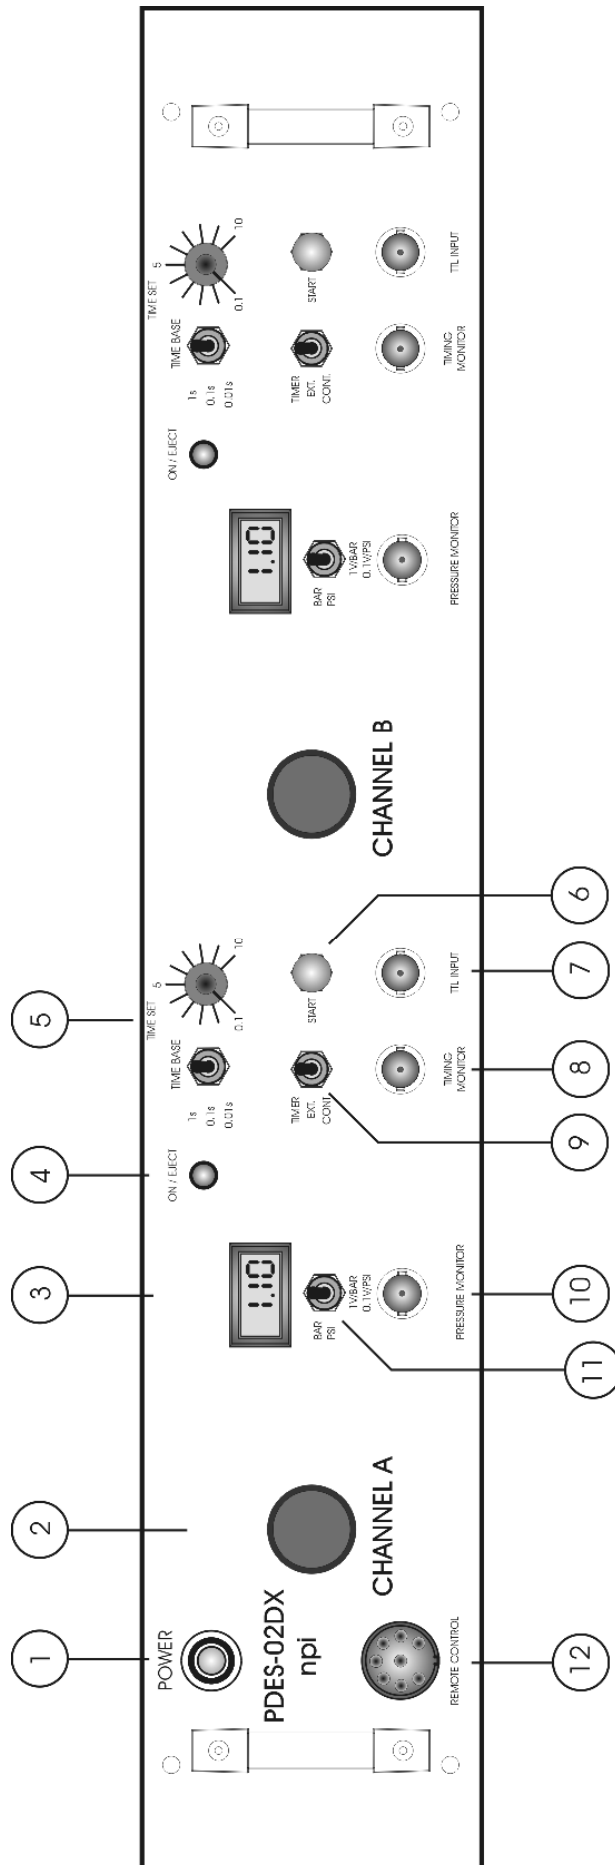

Figure 1: PDES-2DX front panel view (the numbers are related to those in the text below)
In the following description of the front panel elements, each element has a number that is related to that in Figure 1. The number is followed by the name (in uppercase letters) written on the front panel and the type of the element (in lowercase letters). Then, a short description of the element is given. PDES systems are available with one or two channels. Since both channels are identical only channel A is described.
- ❑ Select the operation mode using the respective toggle switch at the front panel (see Figure 1).
- ❑ Use the START button to test the system. The START button can be used to start ejection in TIMER or EXT. mode. In TIMER mode pushing the START button starts ejection for the time set by the timer control (#5, Figure 1). In EXT. mode ejection lasts as long as the START button is pushed.